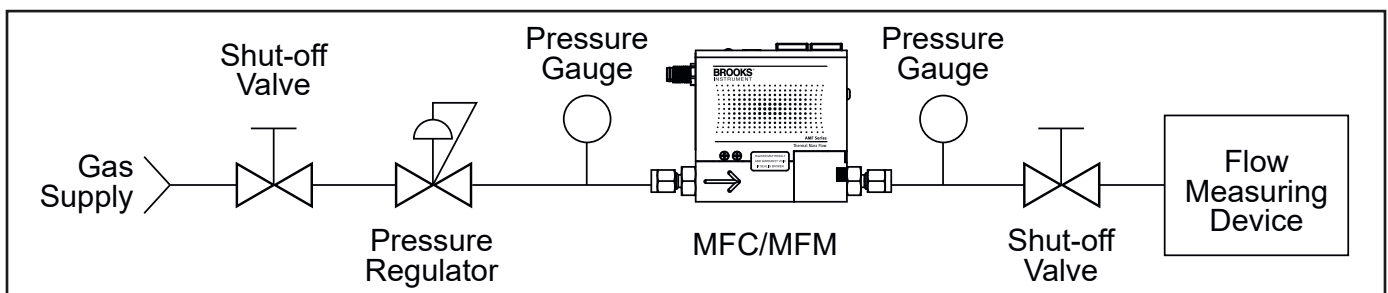

Figure 4-1 Bench Troubleshooting Circuit
1. Establish a proper connection between the Brooks AMF Series Mass Flow Meter or Controller (using Figure 4-1 as a reference) Switch on the power and allow the instrument to warm-up for 45 minutes. In case of a Controller model, adjust the Setpoint to zero. Do not connect the device to a gas source yet. Observe the output signal and, if necessary, perform the zero adjustment procedure (See “Zeroing the MFC”). If the output signal does not zero properly, please contact Brooks Instrument.